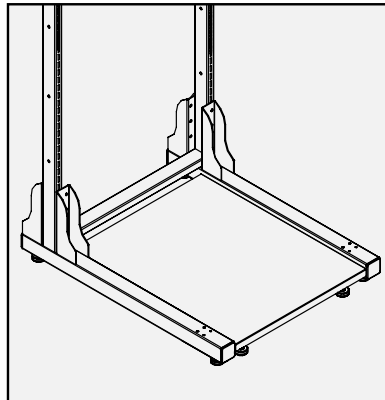
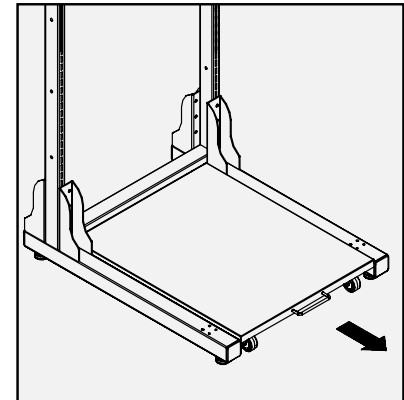

Fig. 10A
Fig. 10B
- A. Stand Alone Floor Shelf is pre-assembled with (4) Gliders (Fig. 10A). An Upgrade Kit is available to convert a Stand-Alone Floor Shelf into a Pull-Out. (Fig. 10B).
- B. Pull-Out Floor Shelf Upgrade Kit includes the following: (2) Lockable Casters, (2) Non-Lockable Casters, Floor Shelf Handle, and hardware to attach the handle.